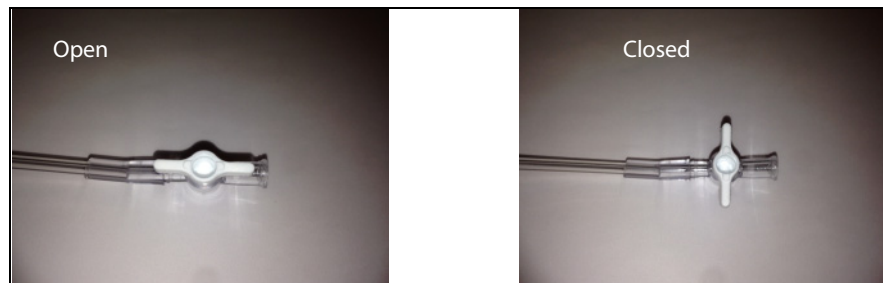

Figure 15. Open and closed positions of stopcock.
**NOTE:** Make sure that the stopcock on the water tube is positioned correctly to allow water to pass through the tube. (See Fig. 15.)